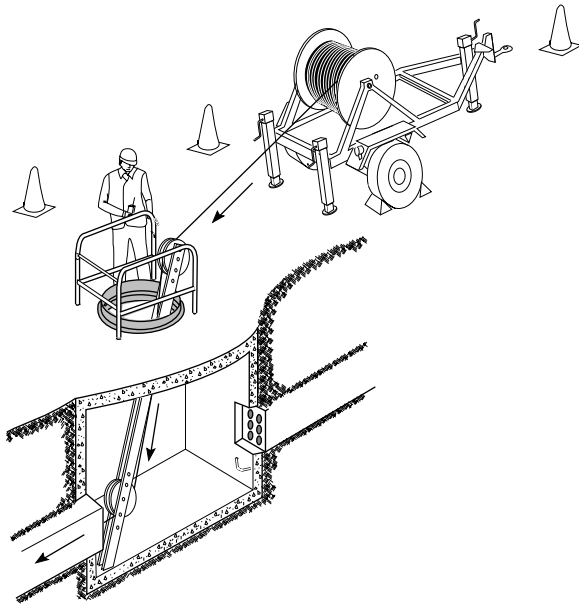

Figure 12 First step of center-pull operation
5.6 In a center-pull operation, set up the cable reel near the center of the duct run to be pulled. Pull the cable in one direction to the next designated splice point (Figure 12).